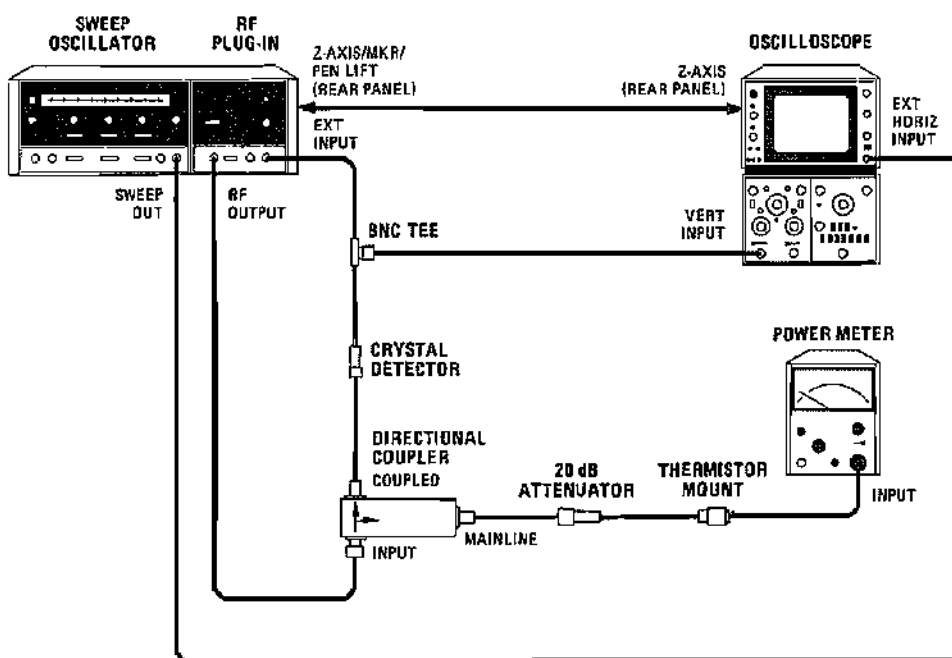

Figure 4-7. Crystal Detector Leveling Test Setup
Equipment listed is for three test setups (Figure 4-7, 4-8 and 4-9).
- a. Connect equipment as shown in Figure 4-7. Set External Leveling Selector switch A3S2 to XTAL (Up) position. Selector switch A3S2 is located at top of A3 ALC Assembly. (Refer to Figure 5-1.)